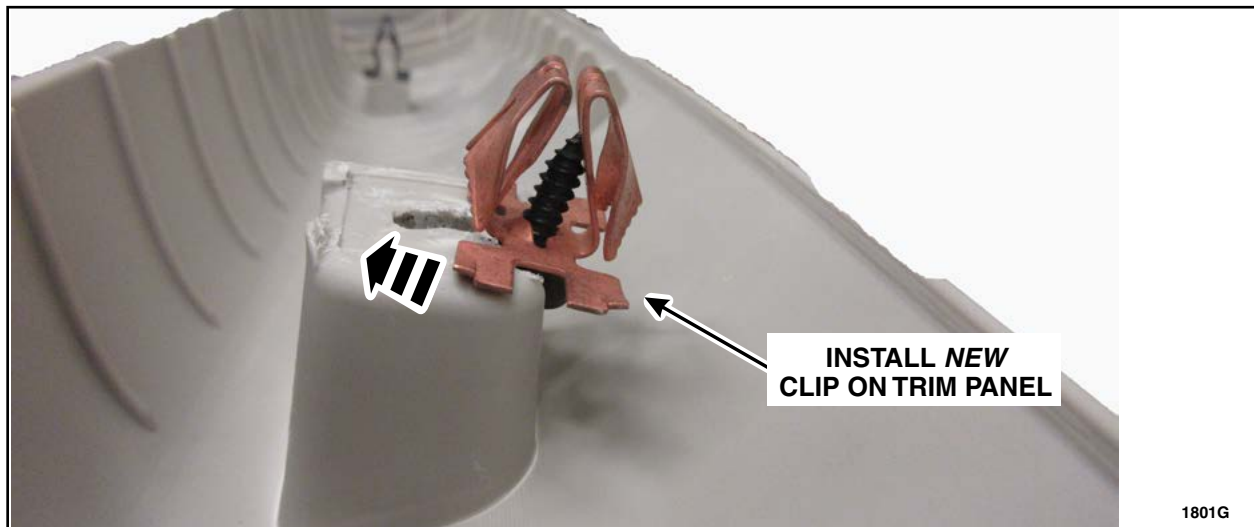

FIGURE 6
6. Install the *new* A-Pillar trim panel clip onto the trim panel. See Figure 6.